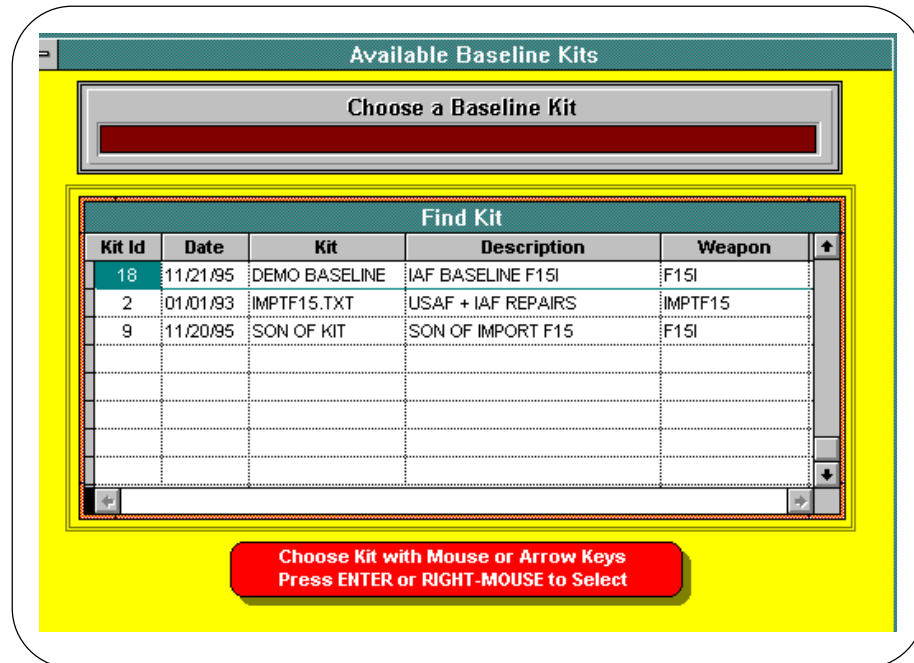

Figure 4-5.
If you select **Copy Baseline Kit** from the **Kit** pull-down menu, ISAAC copies the parameters of an existing kit and the item data. Your first step is to select the kit you want to copy (see Figure 4-5).
- Choose a Baseline Kit from the Available Baseline Kits window that is displayed (see Figure 4-5). Once you select a kit Figure 4-6 will be displayed.